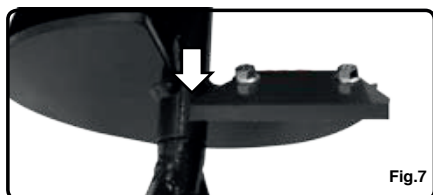

Fig.7
1. Remove the mounting hardware (bolts and nuts), and take off the earth blade (see Figure 7).